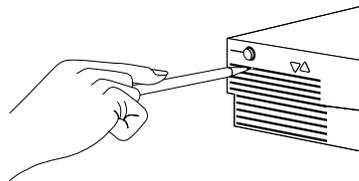

Figure 7-7 Pressing the Reset Button
1. If the system is malfunctioning and you cannot communicate with it using the mouse, or keyboard, or over the network, use a pencil or an unwound paper clip to press the **Reset** button located on the front panel, as shown in Figure 7-7.